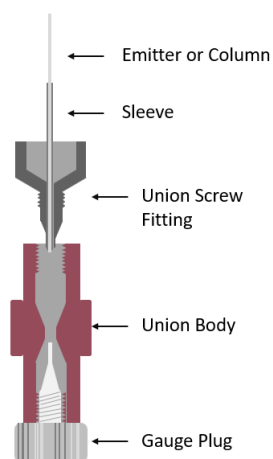

Figure 109: Schematic illustrating the orientation and positioning of the emitter into the union to ensure a dead-volume free connection
6. Hold the MicroTight® screw fitting vertically in one hand with the white gauge plug facing towards the floor and insert the screw fitting into the top of the union (Figure 109).